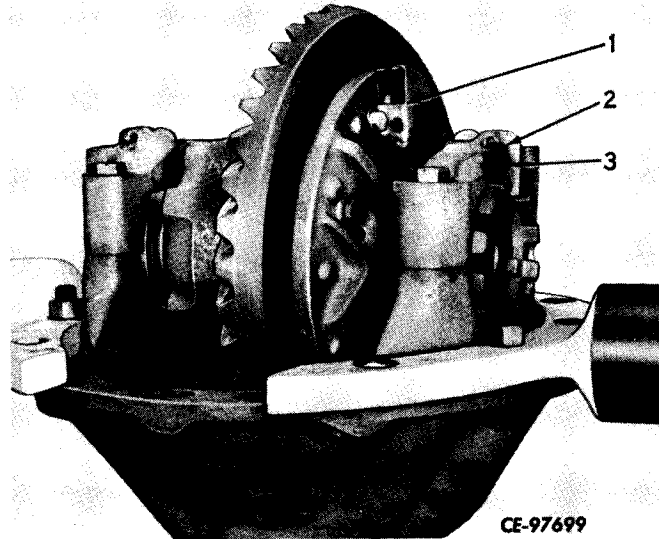

Figure 6-57
When gear adjustments are correct, secure the bearing adjusters in position with locks (3, Fig. 6-57) and cotter pins (2).